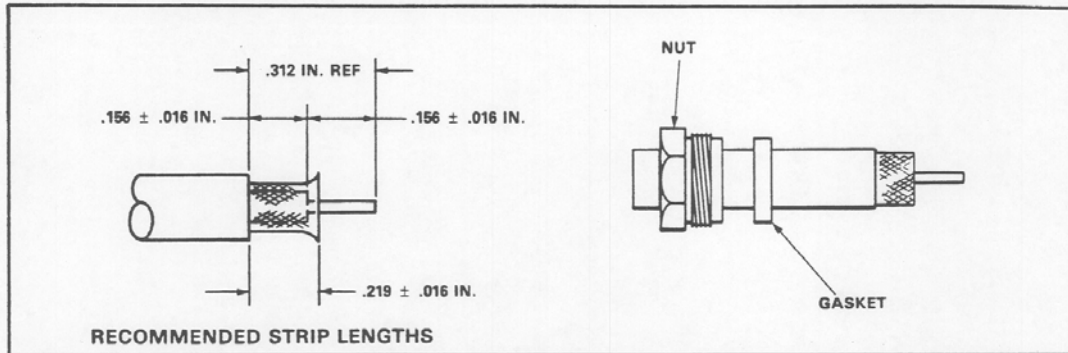

Fig. 2
- Slide nut and gasket onto cable, and then strip cable according to dimensions shown in Figure 2.